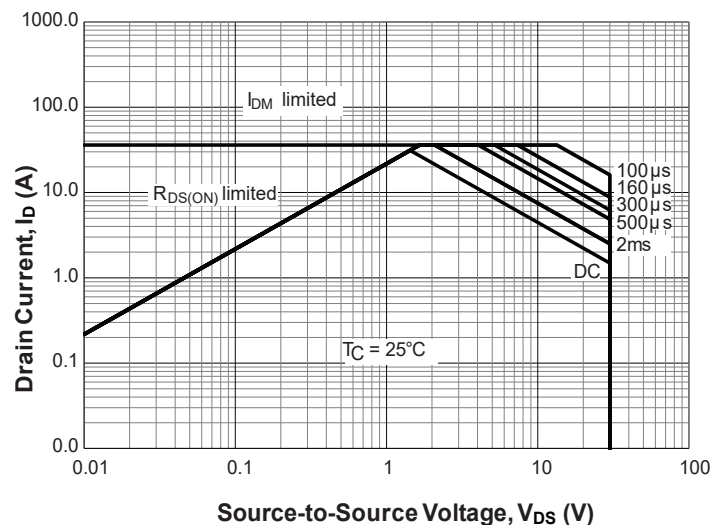

Figure 26. Safe Operating Area (SOA) Curves for Sink Power Switch
Referring to the SOA curve in Figure 26, the maximum power allowed for 2ms (DC) is 50W ( $2.5A \times 20V$  or  $5A \times 10V$ ). The AOZ1381DI power switch is robust enough to drive a large output capacitance with load in a reasonable soft start time.